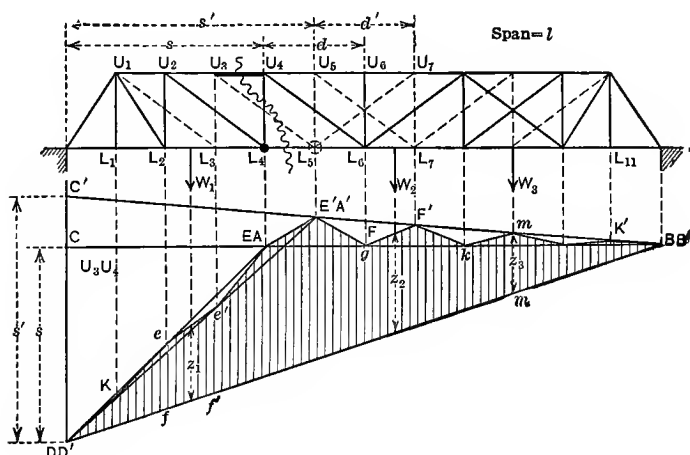

FIG. 20.
**Top Chord of Whipple Truss.**—The Whipple truss shown in Fig. 20 is made up of two simple trusses as indicated by the full and dotted lines of the truss diagram.